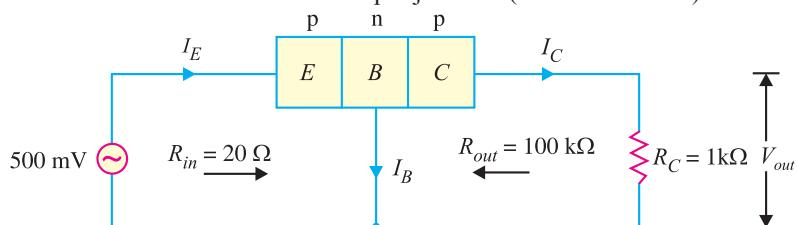

Fig. 8.8
**Solution.** \*\*Fig. 8.8 shows the conditions of the problem. Note that output resistance is very high as compared to input resistance. This is not surprising because input junction (base to emitter) of the transistor is forward biased while the output junction (base to collector) is reverse biased.